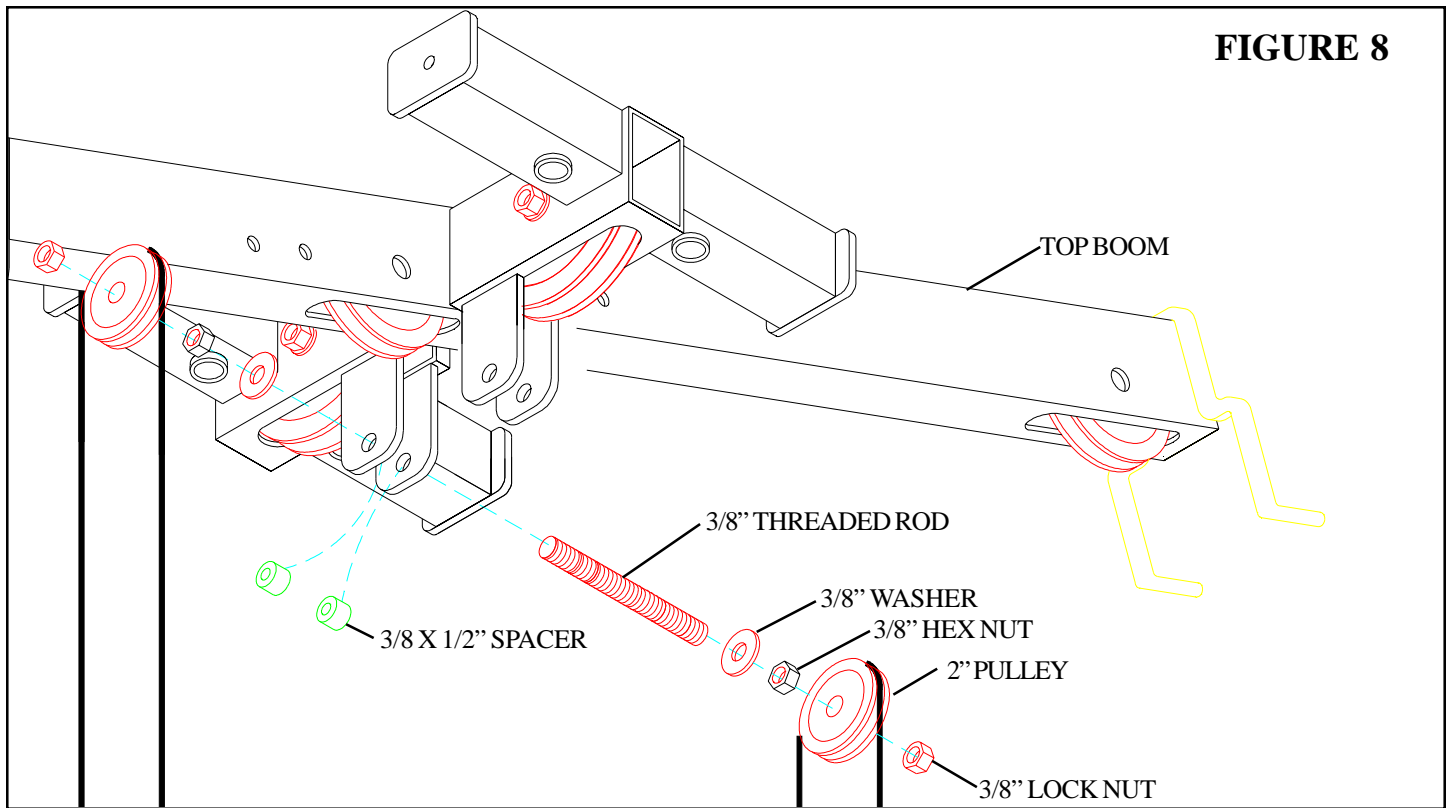

FIGURE 8
- Remove two 2" PULLEYS (5) to the rear bracket on the TOP BOOM using one 3/8" THREADED SHAFT (9), two 3/8" WASHERS, two 3/8" HEX NUTS (8), and two 3/8" LOCK NUTS (7) as shown in FIGURE 8.